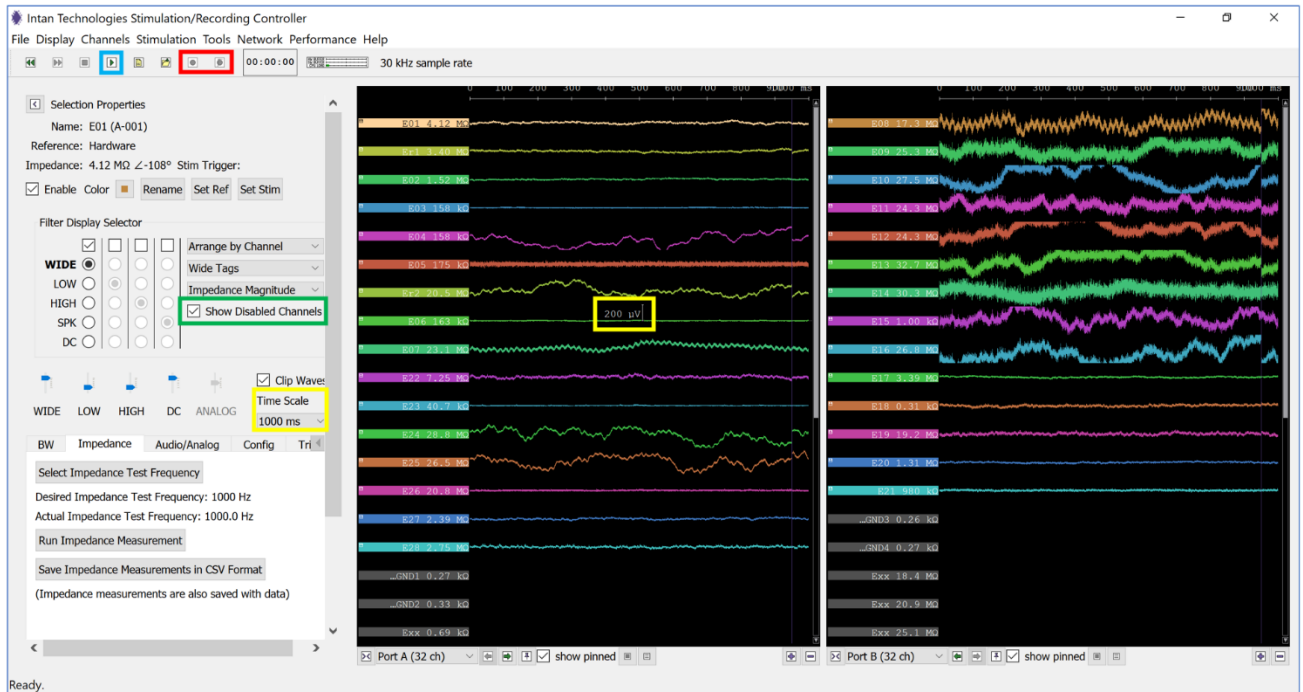

Fig. 51: GUI in “Run” mode with multiple channels disabled (grayed out).
- 1) To visualize the signals, click “Run” (blue box in **Fig. 51**) to start displaying the recorded voltages from each channel. The data are **not** saved, and the run mode is intended for viewing the recorded signals only. In the GUI shown below, the Intan channels not connected to an sMEA electrode have been disabled (disabled channels are shown in gray color). You can remove the disabled channels from the waveform display by un-selecting the “Show Disabled Channels” tab (green box in **Fig. 51**). Also, note that the “Record” and “Trigger” functions (red box in **Fig. 51**) are disabled. The file format and filename need to be specified first for these functions to be enabled (see below).
Note: At the top of the waveform display, the time axis is displayed. To view the voltage scale, move the cursor over one of the channel’s waveform and the voltage scale will be displayed. For example, in the screenshot above, a time scale of 1000ms and a voltage scale of 200µV have been set (yellow boxes in **Fig. 51**).